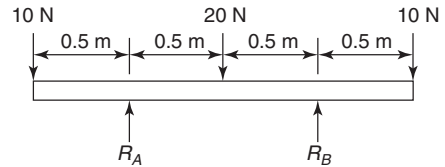

Figure 5.36
7. With reference to Figure 5.36, the reaction R_A is:
8. With reference to Figure 5.36, when moments are taken about R_A , the sum of the anticlockwise moments is:
9. With reference to Figure 5.36, when moments are taken about the right-hand end, the sum of the clockwise moments is:
10. With reference to Figure 5.36, which of the following statements is false?